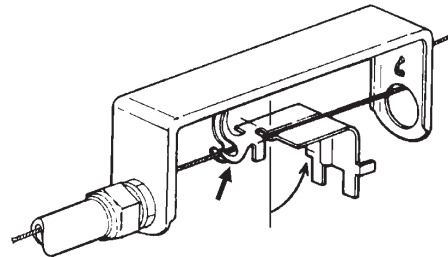

FIGURE 22
- With the tab positioned on the wire rope, press and snap the detector linkage onto the wire rope. See Figure 22.